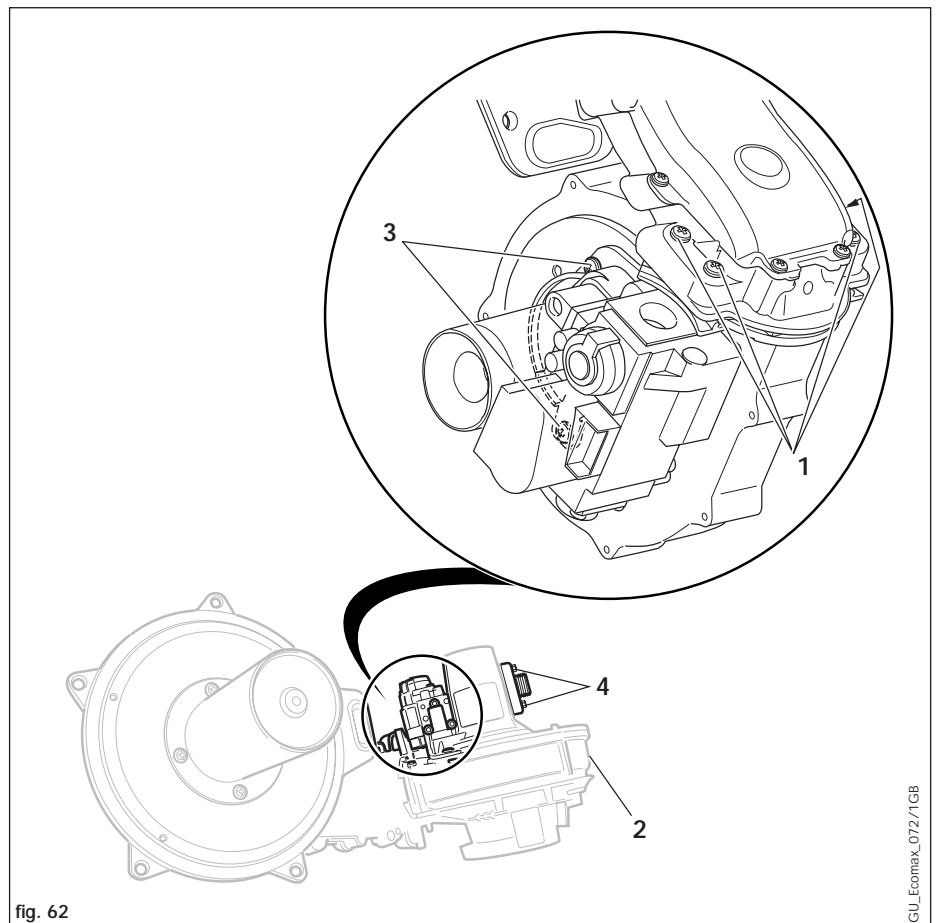

fig. 62
- Remove screw (2) and disconnect air inlet pipe (3).
- Disconnect gas supply from gas valve by undoing union (5).
- Remove five nuts from burner manifold (4).
7.3 REPLACEMENT OF FAN (FIG. 62)
- Slacken 4 screws (1) but do not fully remove.
- Separate gas valve and fan assembly from burner manifold by sliding gas valve and fan (2) assembly out of retaining clamp.
- Remove 3 screws (3) securing gas valve to fan.
- Refit gas valve and fan assembly to burner manifold using the new sealing gasket supplied. Equally tighten the four screws (1) to ensure a good seal is made.
7.4 REPLACEMENT OF GAS VALVE (FIG. 62)
- Slacken 4 screws (1) but not fully remove.
- Disconnect gas inlet supply connection from gas valve by removing four screws (4). Refit the gas inlet supply connection to the new gas valve using the new sealing gasket supplied.